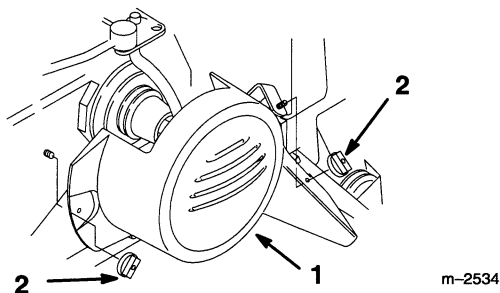

Figure 6
1. Remove the two wing nuts and belt cover from the tractor (Fig. 6).
13. Install tractor belt cover (Fig. 6).